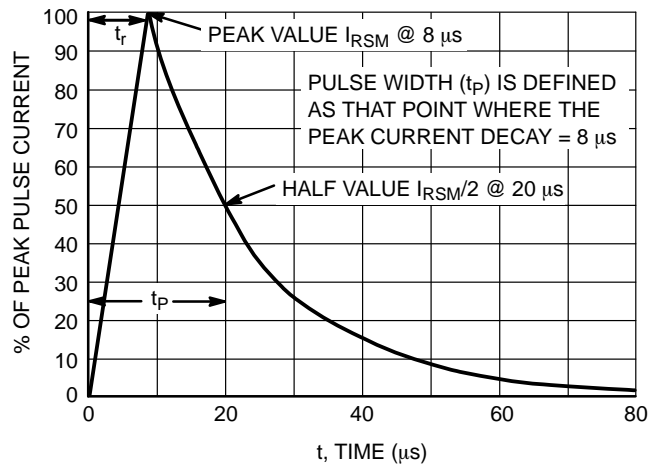

Figure 2. 8 x 20  $\mu s$  Pulse Waveform
1. Non-repetitive current pulse per Figure 2
5. Surge current waveform per Figure 2